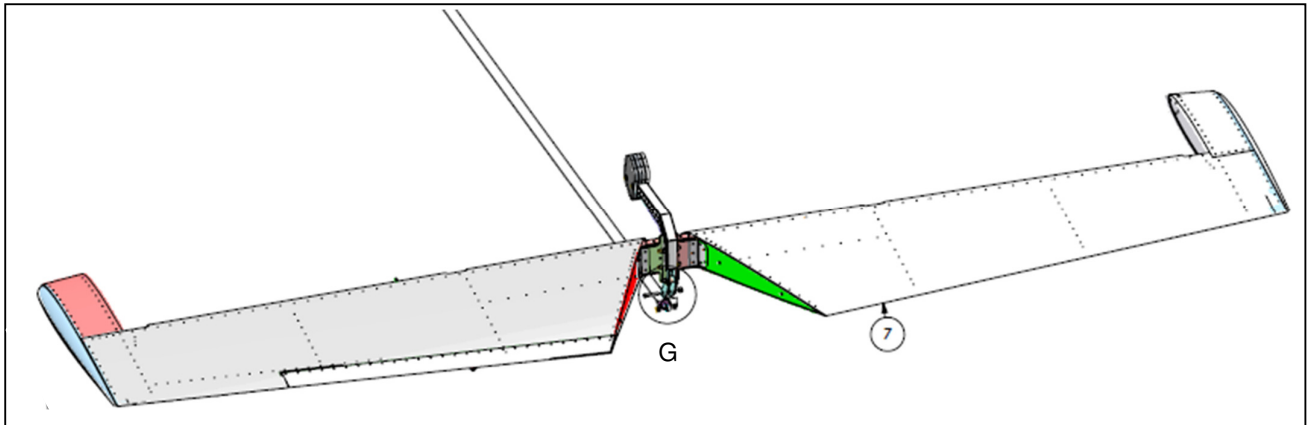
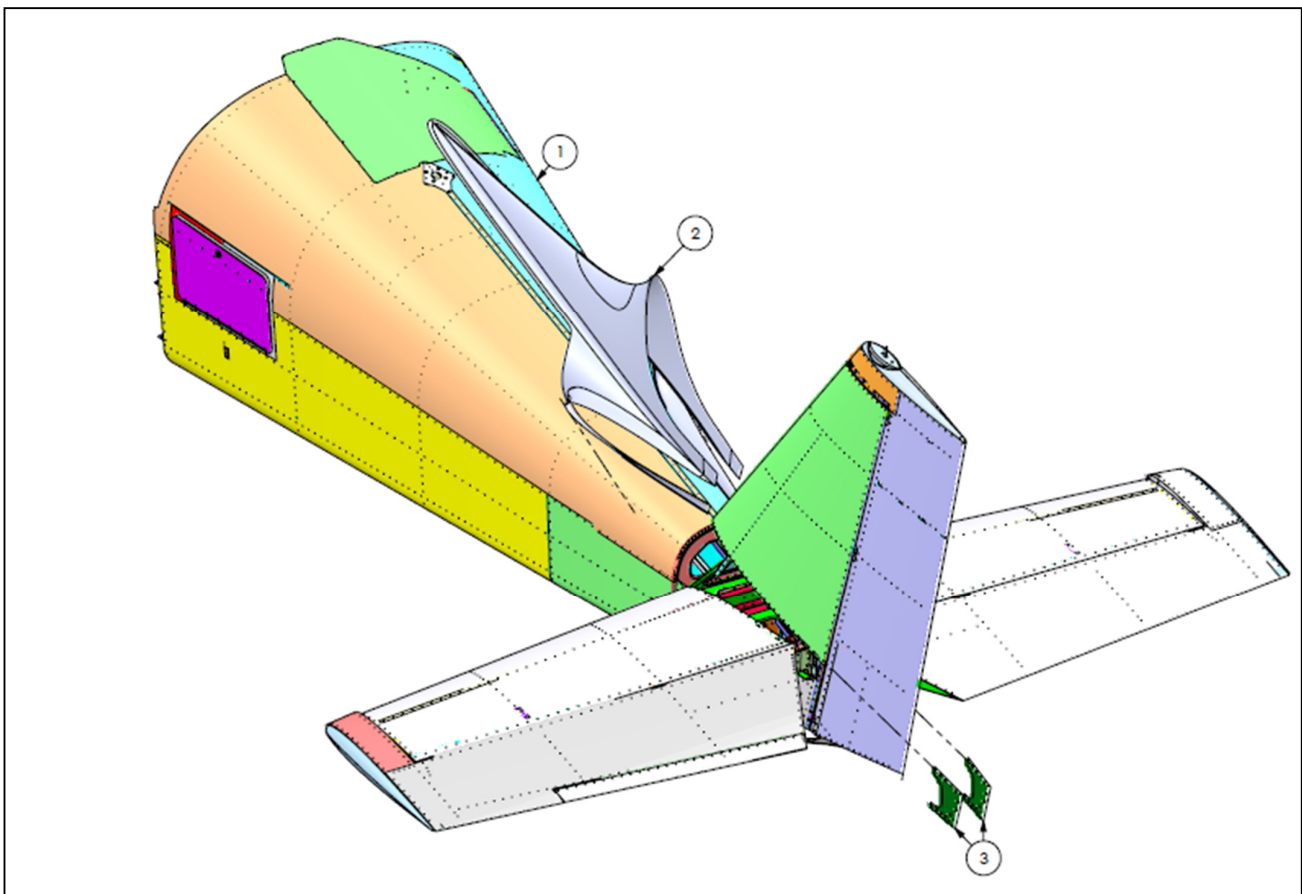

Figure 20
Figure 21: Fairing removal
- Step 11. The last eyebolt that needs to be inspected and replaced is the one connected to the elevator horn in detail G of Figure 20.
- Step 12. To access this, you will need to remove the fairings (2) & (3) in Figure 21. The eyebolts shown in Figure 20 can be accessed without removing the tail.